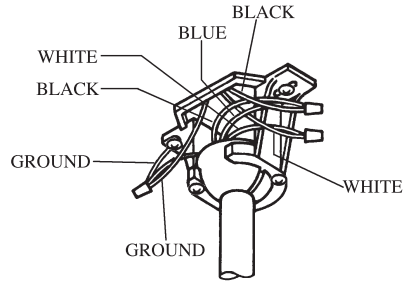

FIG.5
2. Connect the black wire from the outlet box to the black and blue wire from fan with wire nut. Connect the white wire from outlet box to the white wire from fan with wire nut. Connect the green wire from the outlet box to the green wire from the fan (see Fig.5)